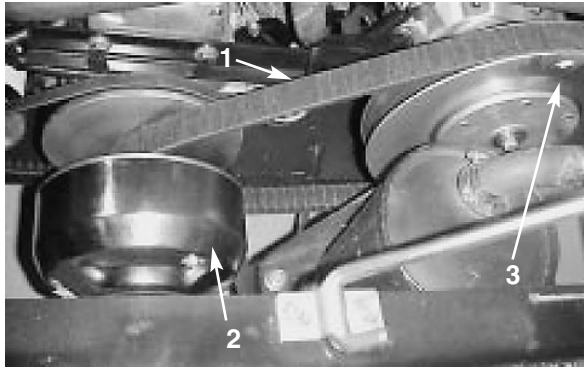

Figure 24
1. Rotate and route the belt over the secondary clutch (Fig. 24).
2. Remove the belt from the primary clutch (Fig. 24).